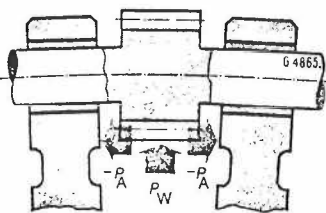

Fig. 2.3 Illustration of IPH elastic bearing
**IPH elastic bearing** (see figure 2.3)